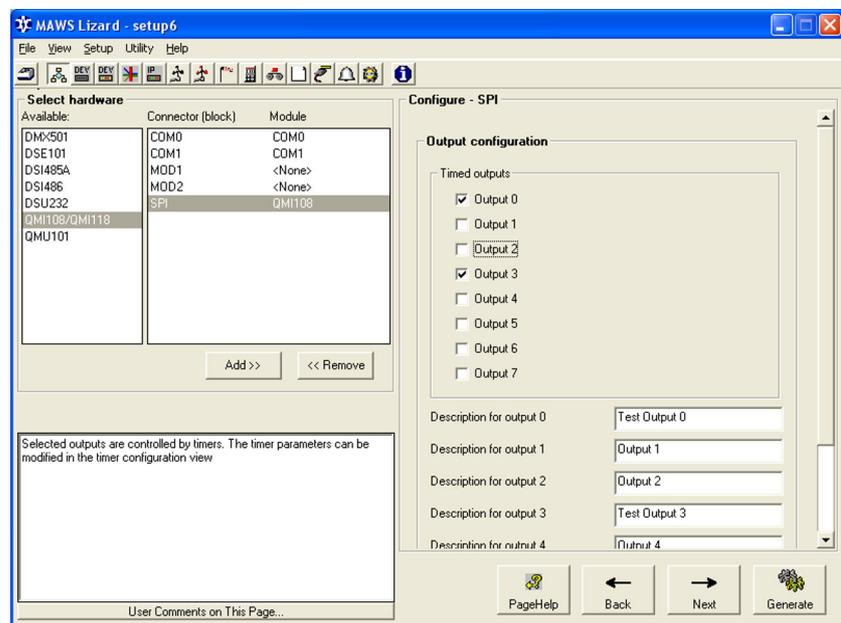

Figure 13 Optional Hardware View: Digital I/O Configuration
1. Add the QMI digital I/O module to the setup in the **Optional hardware** view of Lizard Setup Software. You can also select which outputs are controlled by timers and name the outputs in the **Description for...** text boxes; see Figure 13 on page 49.